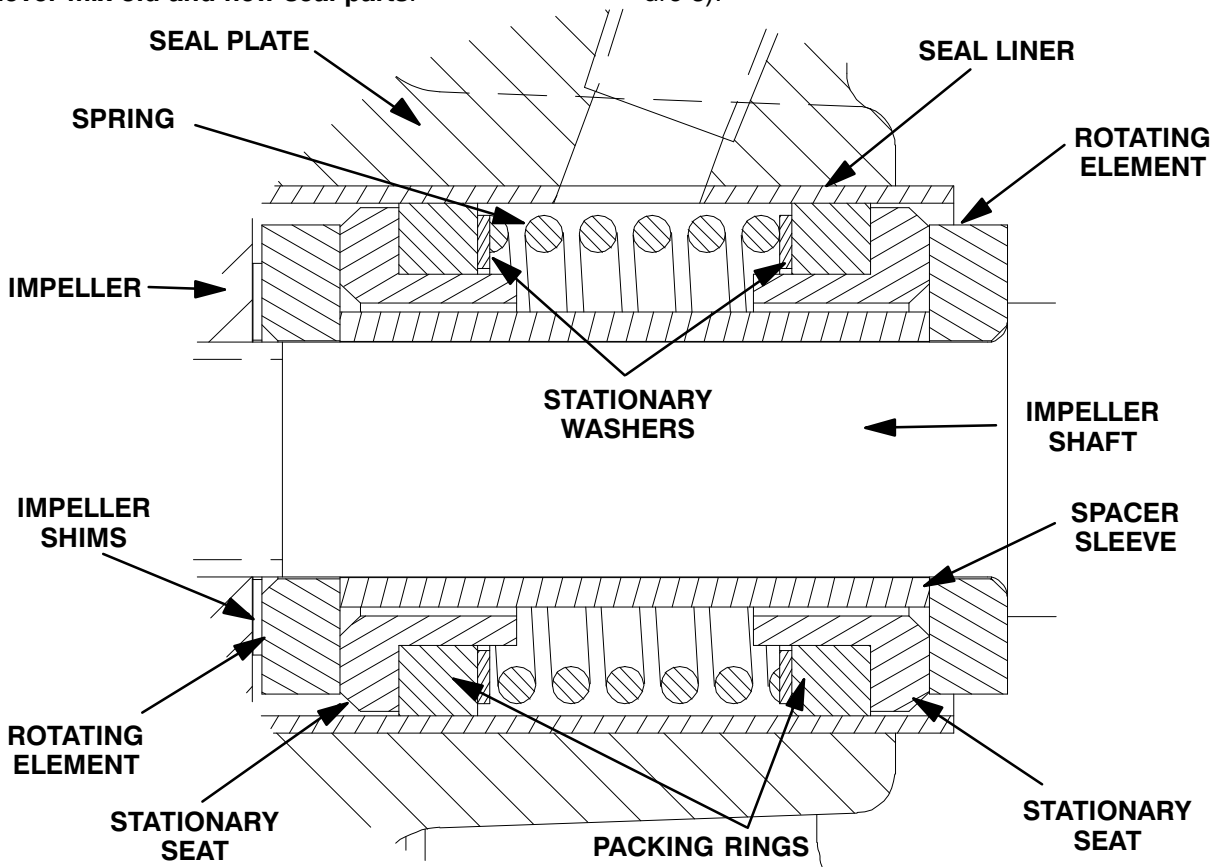

Figure 3. Seal Assembly
To ease installation of the seal, lubricate the seal liner (54) with water or a very **small** amount of oil, and apply a drop of light lubricating oil on the finished faces. Assemble the seal as follows, (see Figure 3).